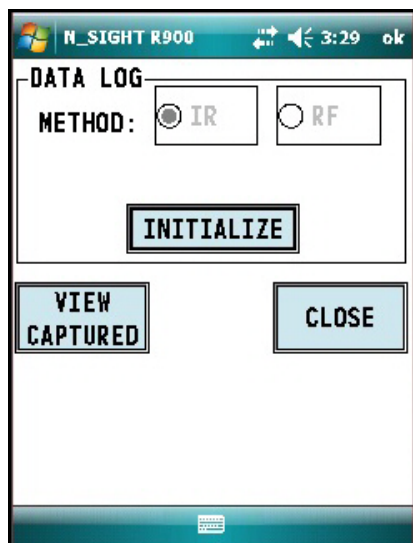

Figure 51 Initialize RF Device
- 2 The Initialize Device screen appears if you are not connected or you are not in range of your R900 BCT. Click **INITIALIZE**. See Figure 51.